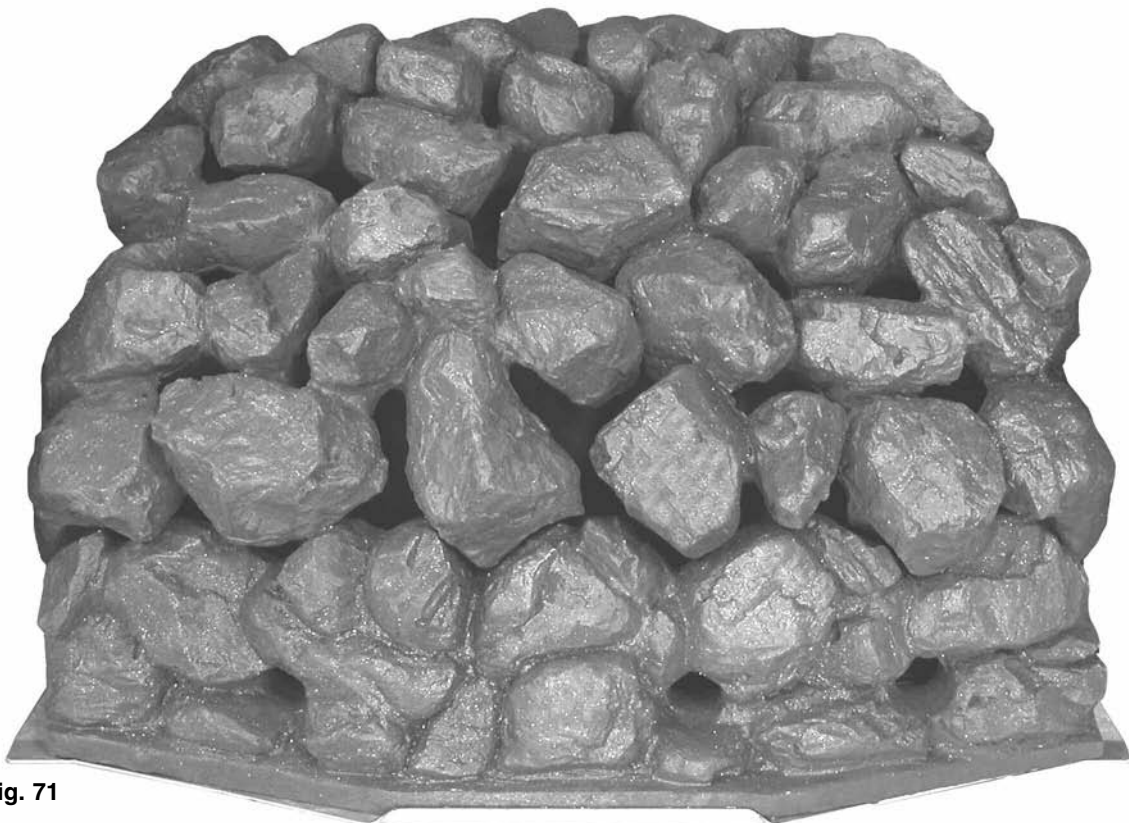

Fig. 71
5. Finally check that all the coal pieces are 'nested' together correctly (Fig. 71).